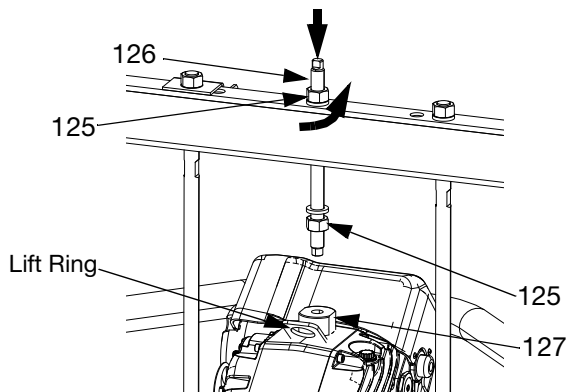

FIG. 41: 55 Gallon Platen
5. Disconnect Driver (AB):
- a. Attach a secure hoist to the driver lift ring. Loosen nut (125) below crossbar.
- b. Use wrench to hold lift ring adapter (127) in place and loosen threaded rod (126) above crossbar with another wrench. See FIG. 41.